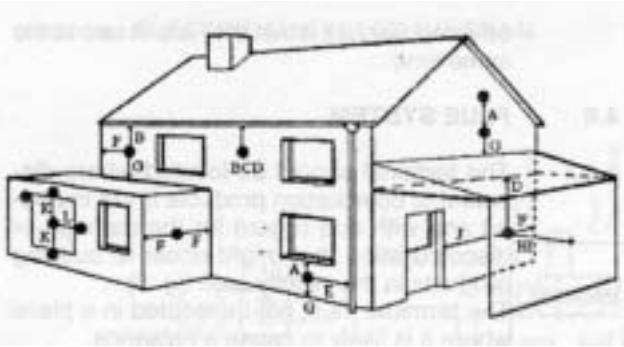

Fig. 6
4.6.1 The terminal should be located where dispersal of combustion products is not impeded and with due regard for the damage or discolouration that might occur to building products in the vicinity (see fig. 6). The terminal must not be located in a place where it is likely to cause a nuisance. In cold and/or humid weather water vapour may condense on leaving the flue terminal. The effect of such steaming must be considered. The terminal must not be closer than 25 mm. (1 in) to any combustible material. For protection of combustibles, refer to BS 5440.1. Where a flue terminal is installed less than 1000 mm. from a plastic, or painted gutter; or 500 mm from painted eaves. an aluminium shield 1000 mm. long, should be fitted to the underside of the gutter or painted surface. Plumbing will occur at the terminal so, where possible, terminal positions which could cause a nuisance should be avoided. The flue must be installed in accordance with the recommendations of BS 5440: Part 1.
Minimum acceptable spacing from the terminal to obstructions and ventilation opening are specified in Fig. 6.